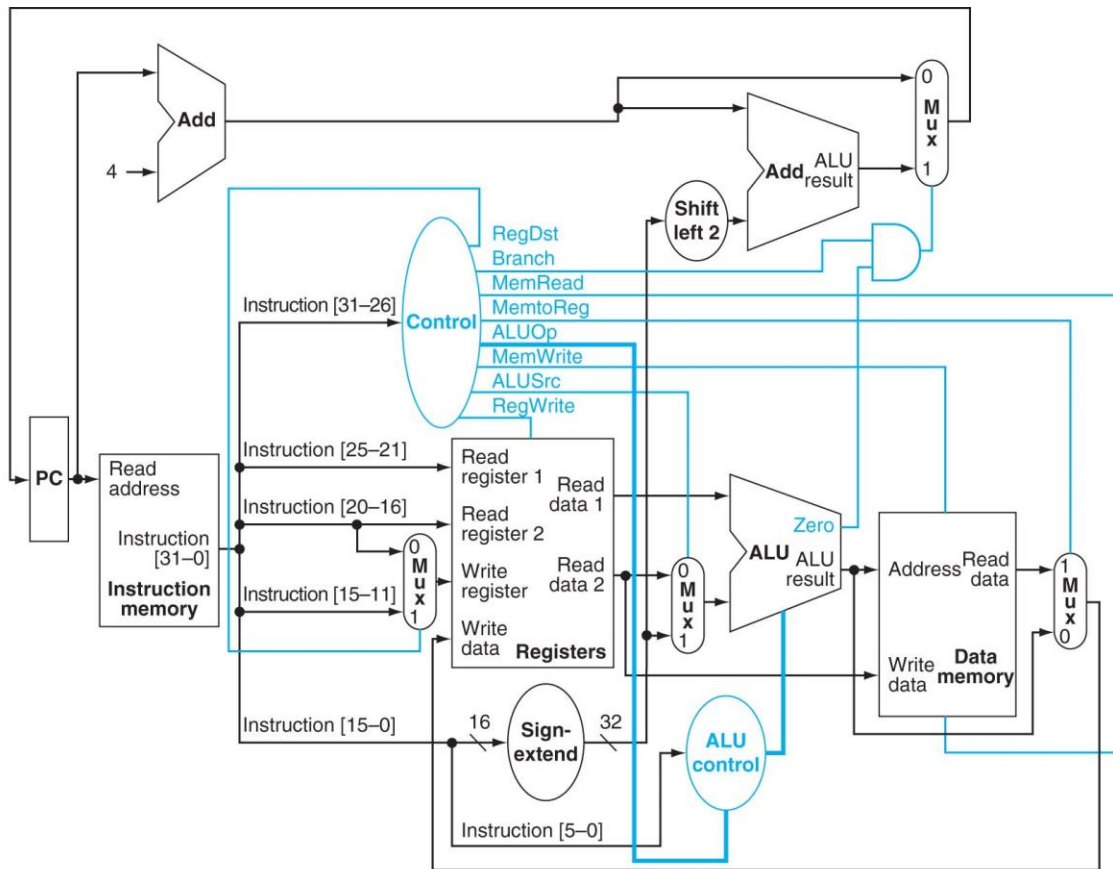

Figure 1 - Figure 4.17 (p. 322) 4th Ed.
- 2.) (**Exercise 5.2, 3rd Ed.**) (12 pts.) Consider the effect that a single stuck-at-0 fault (i.e. a defect during the manufacturing process causes that particular signal to be '0' regardless of the intended design) would have for the signals shown below, in the single-cycle datapath (Figure 1) Which instruction(s), if any, will not work correctly?